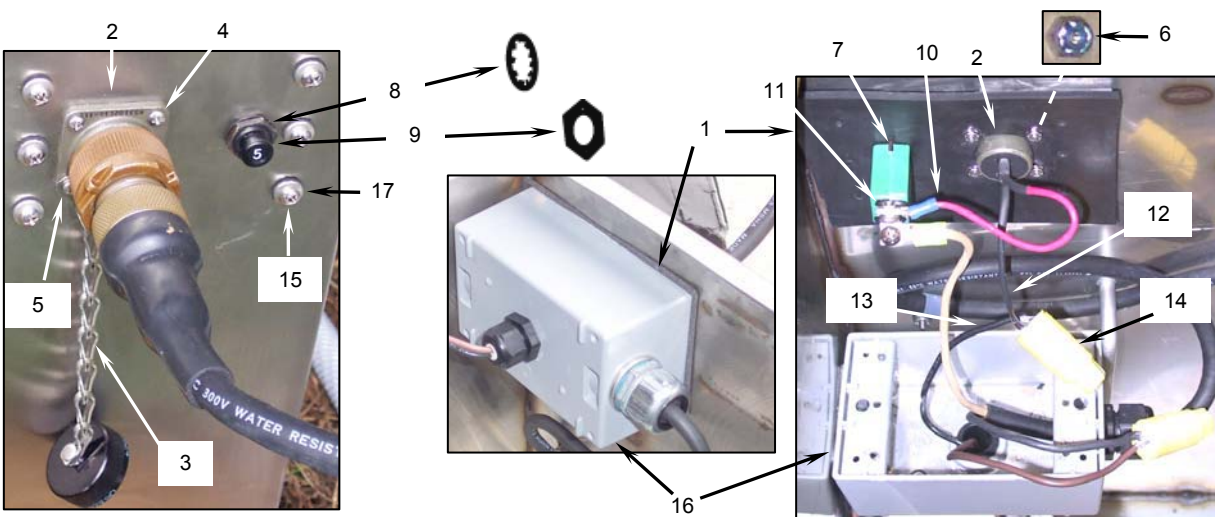

Figure 2. Installing the Grease Separator Weatherproof Box Gasket.
- a. Position the new gasket (**Figure 2, Item 1**) on the grease separator enclosure, making sure all the holes line up properly.
- b. Insert the power connector (**Figure 2, Item 2**) through the hole from the outside of the grease separator enclosure.
- c. To secure the electrical connector to the enclosure, ensure that the end of the connector cap chain (**Figure 2, Item 3**) is fitted over the bottom left screw.
- d. Secure the connector (**Figure 2, Item 2**) and the connector cap chain (**Figure 2, Item 3**) to the enclosure using the four screws (**Figure 2, Item 4**), one flat washer (**Figure 2, Item 5**), and four self-locking nuts (**Figure 2, Item 6**).
- e. Insert the circuit breaker through the grease separator enclosure from the inside. Ensure that the orientation tab (**Figure 2, Item 7**) fits into the notch inside the enclosure above the opening.
- f. Secure the breaker to the enclosure using the lock washer (**Figure 2, Item 8**) and the lock nut (**Figure 2, Item 9**).
- g. Connect the red connector wire (**Figure 2, Item 10**) to the circuit breaker terminal (**Figure 2, Item 11**). Coat the connection with corrosion preventative sealant.
- h. Twist the black connector wire (**Figure 2, Item 12**) together with the black pump wire (**Figure 2, Item 13**) and secure with a new watertight wire nut (**Figure 2, Item 14**).
- i. Apply sealing compound to the threads of the six machine screws (**Figure 2, Item 15**).
- j. Position the weatherproof box (**Figure 2, Item 16**) on the gasket (**Figure 2, Item 1**) and the wall of the grease separator and secure with the six sealing washers (**Figure 2, Item 17**) and machine screws (**Figure 2, Item 15**).